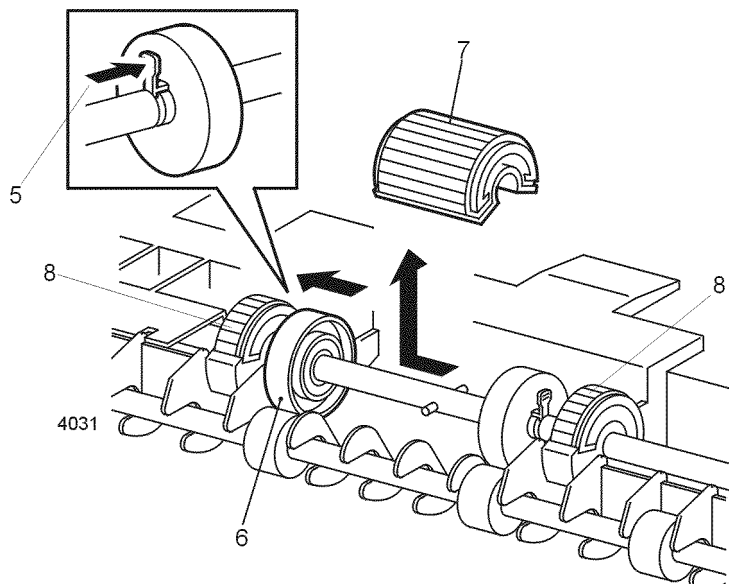

Figure 1 Tray 1 Feed Roll
6. Slide the Left Roll Core to the left (Figure 1).
7. Slide the Feed Roll to the left and remove (Figure 1).
8. If replacing the envelope feed rolls, press the locking tabs and remove the two envelope feed rolls (Figure 1).